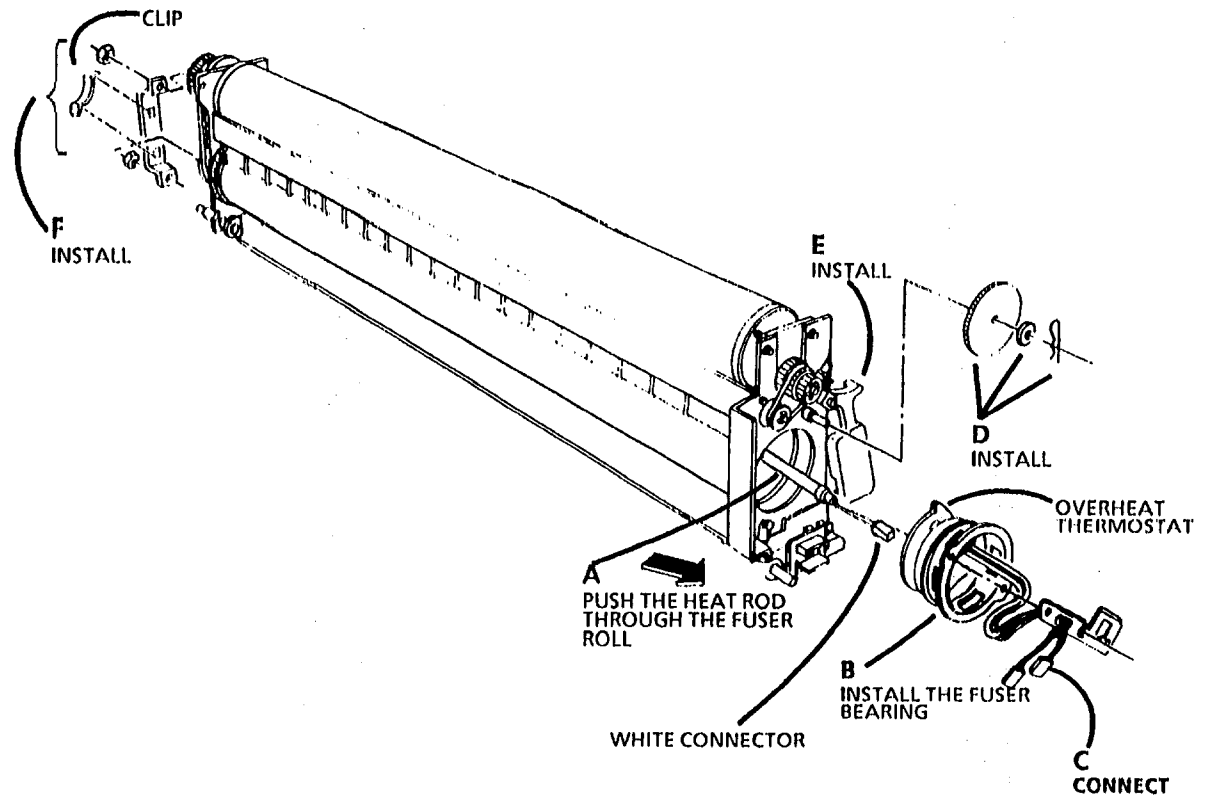

Figure 3. Install the Fuser Bearing
3. (Figure 3): Install the fuser bearing.